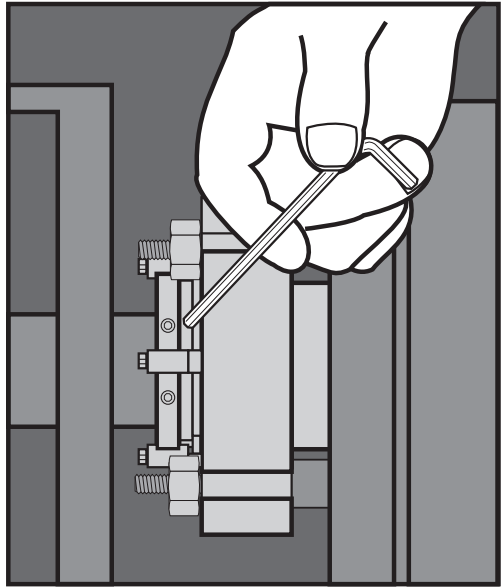

Figure 10
2.7 With the impeller, shaft, coupling, and bearings in their final operating positions, **tighten the CPM PX drive collar set screws.** See Figure 10.